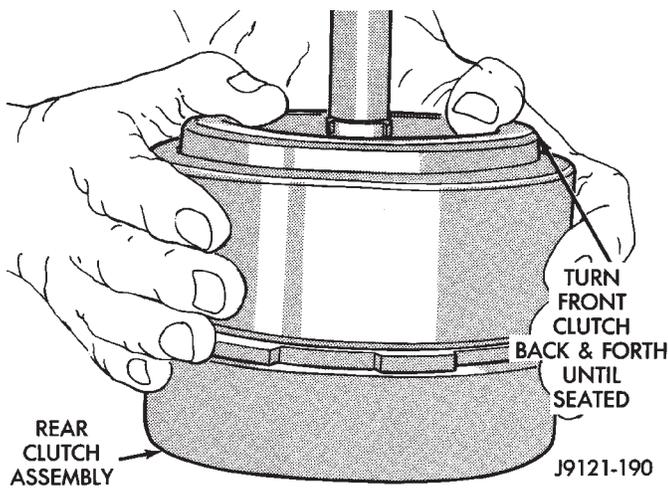

Fig. 142 Assembling Front And Rear Clutch Units
(13) Align clutch discs in front clutch and install front clutch on rear clutch (Fig. 142). Rotate front clutch retainer back and forth until completely seated on rear clutch retainer.